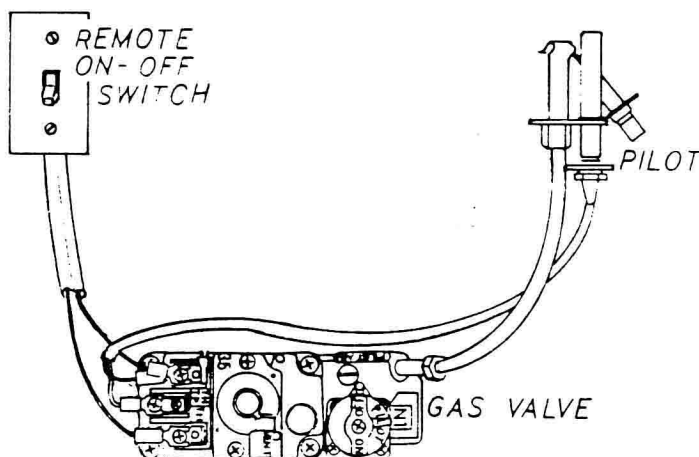

FIG. 6
4. Install the remote wall switch in a convenient location and route the 18 gauge millivolt wire through the opposite gas pipe supply line hole and into the control compartment (Fig. 6).
9. Attach the remote millivolt wall switch wiring to the gas control valve (Fig. 6).